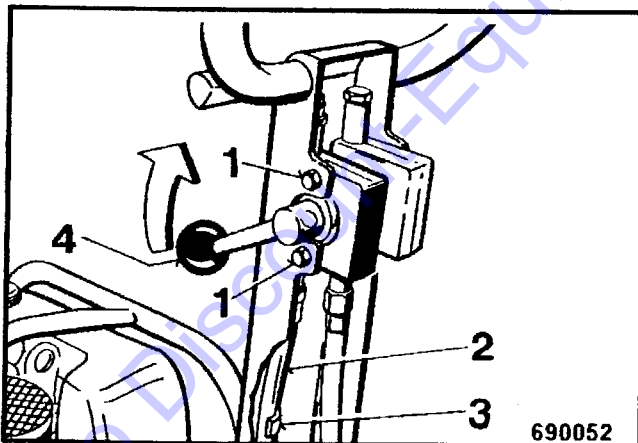

Fig. 2
- Set the throttle lever 4 (Fig. 2) to position "Engine Stop".
- Loosen the fixing clamp 3 (Fig. 2).
- Unscrew the two mounting screws (1).
- Remove the throttle cable (2) from the steering rod and pull it out of the engine base plate.